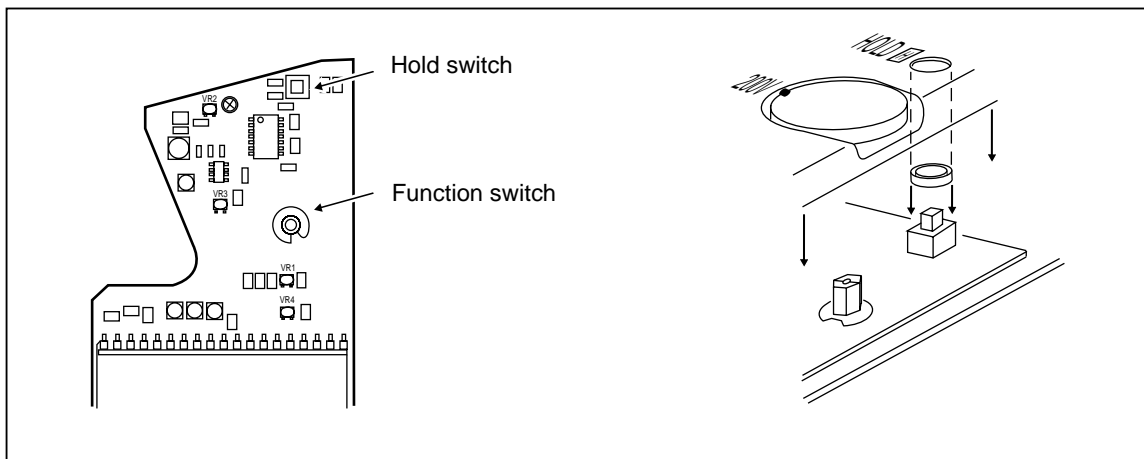

Figure 3. Rotary Switch Position
2. Set the mark on the function switch axis to the 200V AC position (horizontal position), see Figure 3.